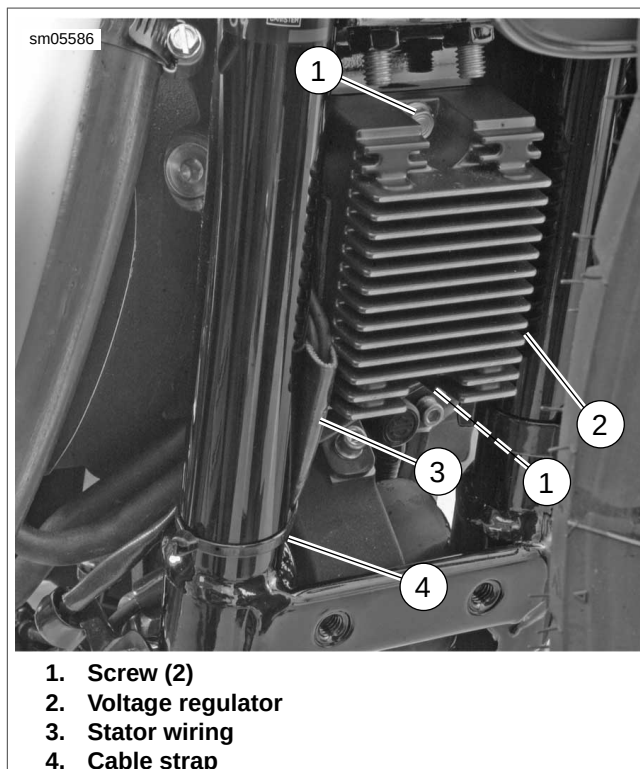

Figure 6-11. Stator Wire Routing: XR Models
4. See Figure 6-11. Remove screws (1) from locations at top and bottom of voltage regulator (2). Remove regulator from vehicle, carefully threading harnesses through opening in regulator mounting bracket.